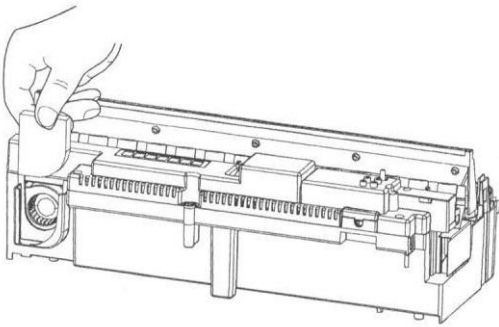

Fig 27
2. Gently slide the air filter upwards out of its plastic holder (Fig. 27).